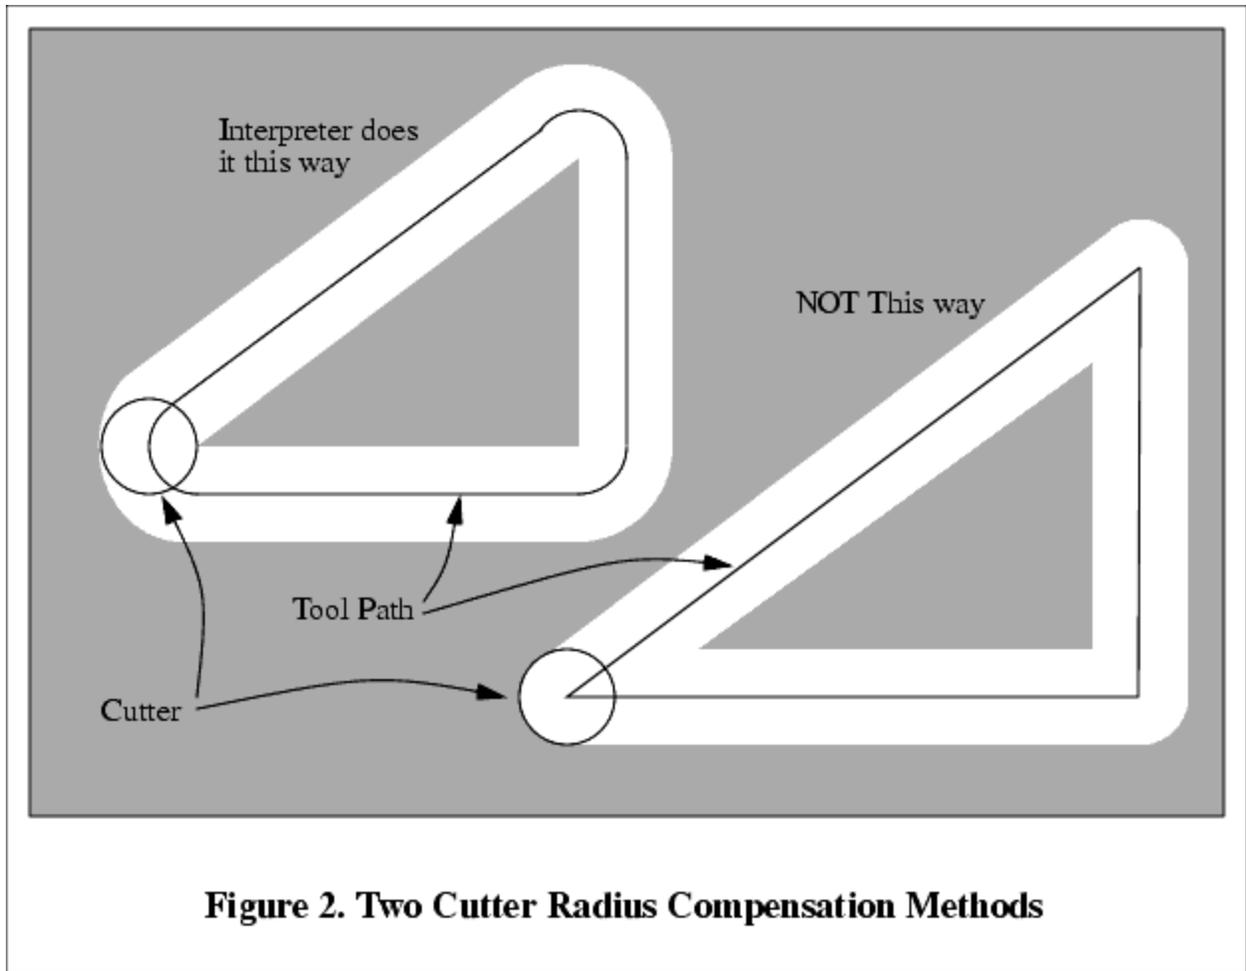

Figure 2. Two Cutter Radius Compensation Methods
Where the adjacent sides of remaining material meet at a corner, there are two common ways to handle the tool path. The tool may pass in an arc around the corner, or the tool path may continue straight in the direction it was going along the first side until it reaches a point where it changes direction to go straight along the second side. Figure 2 shows these two types of path. On Figure 2:
Both paths will clear away material near the shaded triangle and leave the shaded triangle uncut. When the Interpreter performs cutter radius compensation, the tool path is rounded at the corners, as shown on the left in Figure 2. In the method on the right (the one not used), the tool does not stay in contact with the shaded triangle at sharp corners, and more material than necessary is removed.
There are also two alternatives for the path that is programmed in NC code during cutter radius compensation. The programmed path may be either (1) the edge of the material to remain uncut (for example, the edge of the inner triangle on the left of Figure 2), or (2) the nominal tool path (for example, the tool path on the left side of Figure 2). The nominal tool path is the path that would be used if the tool were exactly the intended size. The Interpreter will handle both cases without being told which one it is. The two cases are very similar, but different enough that they are described in separate sections of this manual. To use the material edge method, read Appendix B.3. To use the nominal path method, read Appendix B.4.
In Figure 2, for example, if G41 were programmed, the tool would move clockwise around the triangle, so that the tool is always to the left of the triangle when facing in the direction of travel. If G42 were programmed, the tool would stay right of the triangle and move counterclockwise around the triangle.
When the contour is a nominal path contour (the path a tool with exactly the intended diameter would take), the tool path is described in the NC program. It is expected that (except for during the entry moves) the path is intended to create some part geometry. The path may be generated manually or by a post-processor, considering the part geometry which is intended to be made. For the Interpreter to work, the tool path must be such that the tool stays in contact with the edge of the part geometry, as shown on the left side of Figure 2. If a path of the sort shown on the right of Figure 2 is used, in which the tool does not stay in contact with the part geometry all the time, the Interpreter will not be able to compensate properly when undersized tools are used. A nominal path contour has no corners, so the simple method just described will not work.